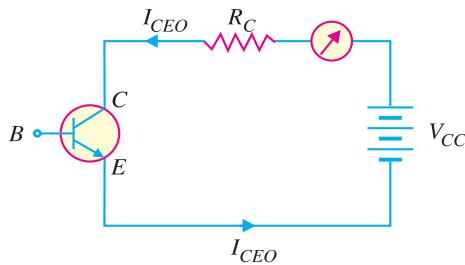

Fig. 8.18
**(i) Circuit for  $I_{CEO}$  test.** Fig. 8.18 shows the circuit for measuring  $I_{CEO}$ . Since base is open